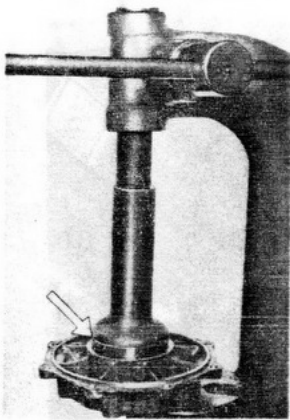

Fig. 18
6. Press outer ring of taper roller bearing 30 210 into housing and cover (Fig. 18). (Use suitable press).